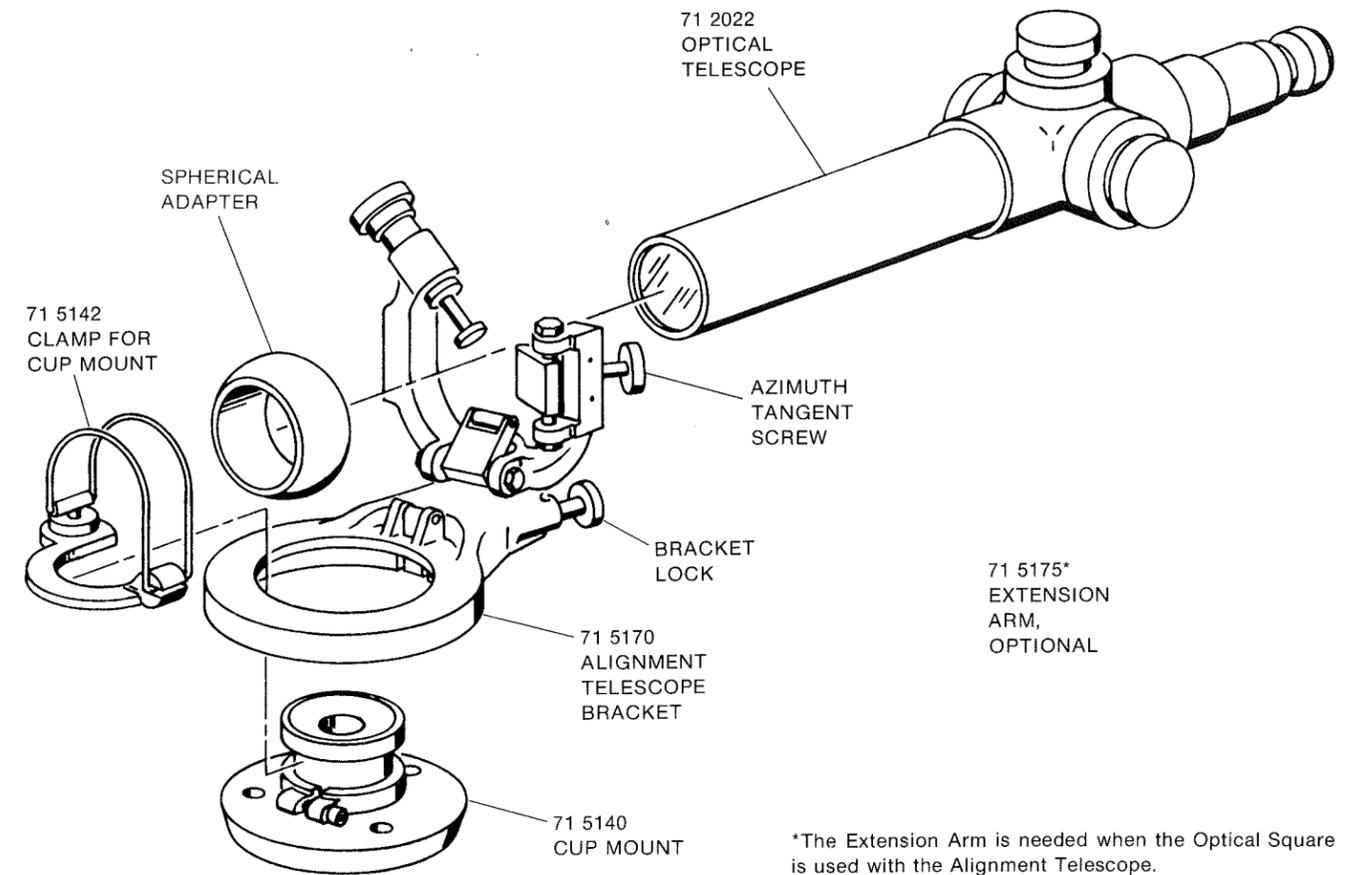
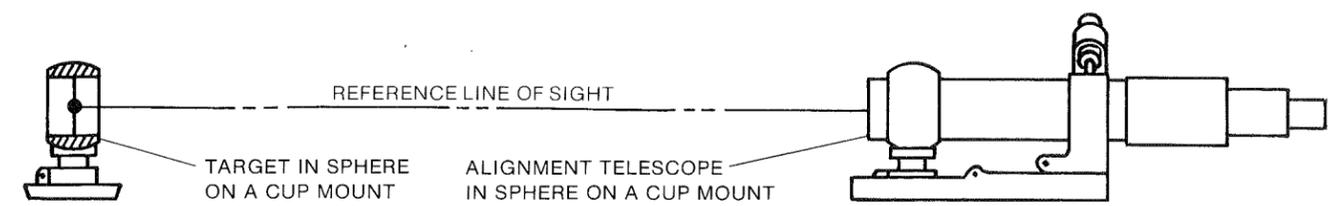

Figure 2-4. Assembly of Cup Mount, Spherical Adapter, Bracket, and Alignment Telescope
Figure 2-6. Establishing a Reference Line of Sight
at one end, and to place an Alignment Telescope or Line of Sight Telescope in the other Spherical Adapter and place it, along with a suitable bracket, on the Cup Mount at the other end. (See Figures 2-4 and 2-5.) The bracket supports the rear end of the telescope, and its fine motion tangent screws aid in aiming the telescope. It is then only necessary to aim the telescope at the target to establish an optical line of sight from the center of one sphere to the center of the other sphere. (See Figure 2-6.) Intermediate targets indexed to part locators by permanently mounted special fixtures can then be aligned to the reference line of sight. At this point, the telescope and Spherical Adapters can be removed from the Cup Mounts, and the intermediate targets from their fixtures, and put away. At any future time, any set of targets, any two Spherical Adapters, and the telescope and target can be used to reestablish the reference line of sight and to check the location of the various part locators. This had been done previously by stretching a tight wire instead of the reference line of sight.
**2-35. Brackets.** Cubic Precision can supply a variety of brackets and supports for the Alignment Telescopes, Line of Sight Telescopes and Collimators. The 71 5170 Alignment Telescope Bracket is shown in Figures 2-4 and 2-5, and its use is described in Section 2, Para. 2-22., "Basic Instrument Concepts." The brackets support and provide a means for adjusting the position of the Alignment Telescope, Line of Sight Telescope or Alignment Collimator. Brackets can be attached to any cup mount. Two tangent screws are provided; one adjusts the aim of the instrument left and right, and the other adjusts the aim up and down. The yoke of the bracket can be repositioned easily to permit setups with the bracket secured in a horizontal, vertical, inclined, or upside-down position.